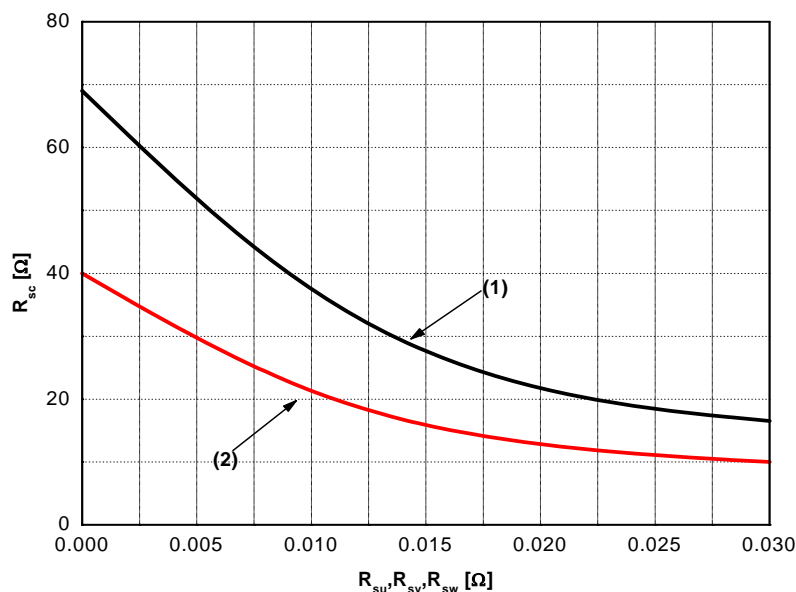

Figure 6. R_{SC} Variation by Change of Shunt Resistors (R_{SU} , R_{SV} , R_{SW}) for Short-Circuit Protection
- Short-circuit protection is functioning only at the low-sides. It would be recommended that the value of the external sensing resistor (R_{SC}) should be selected around 40 Ω in order to make the SC trip-level of about 75A at the shunt resistors (R_{SU}, R_{SV}, R_{SW}) of 0 Ω. For the detailed information about the relationship between the external sensing resistor (R_{SC}) and the shunt resistors (R_{SU}, R_{SV}, R_{SW}), please see Figure 6.